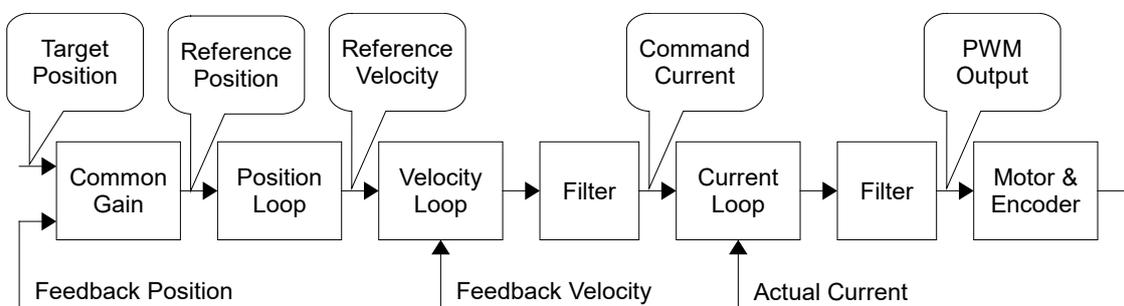

Figure 3.5.1
To control the servo motor, D2T-LM series drive comes with three types of control loops, current loop, velocity loop and position loop. The architecture of servo loops is shown in Figure 3.5.1. On position mode, these three servo loops are connected in sequence to control the position of the motor. On velocity mode, velocity loop drives the motor through current loop. On current mode, current loop only controls the phase commutation mechanism of the motor. Its command is controlled by the voltage command from the host controller. To simplify the gain parameters of the servo loops, D2T-LM series drive only uses one common gain (CG) to set and adjust the overall control-loop architecture.